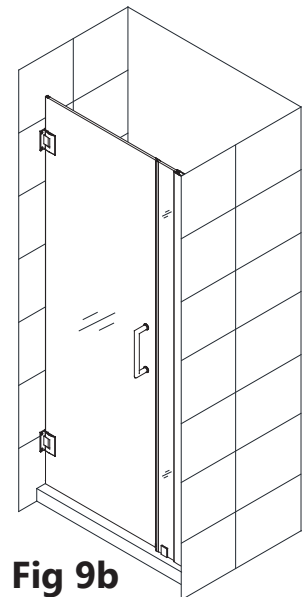

**Fig 8**
**8.** Recheck the alignment and spacing of the **Door Glass** and **Panel Glass (#11)** and test the operation of the Door. After final adjustments of the **Panel Glass (#11)** drill holes into the **Glass Profile (#10)** through the predrilled holes in the **Wall Profile (#09)** using an  $\text{Ø}1/8''$  drill bit. Use the **Pan Head Screws ST4.2×10 (#14)** and **Washers (#17)** to attach the **Wall Profile (#09)** to the **Glass Profile (#10)**. Cover the exposed screw heads with **Decorative Screw Cover (#17)**. (**Fig 8**)